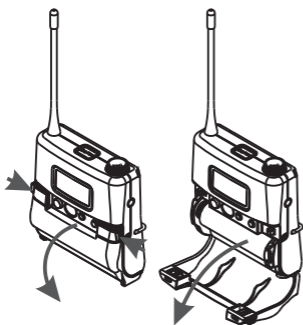

Fig. 30
1. Press the side hooks to open battery compartment. Remove the battery carefully, Fig. 30.